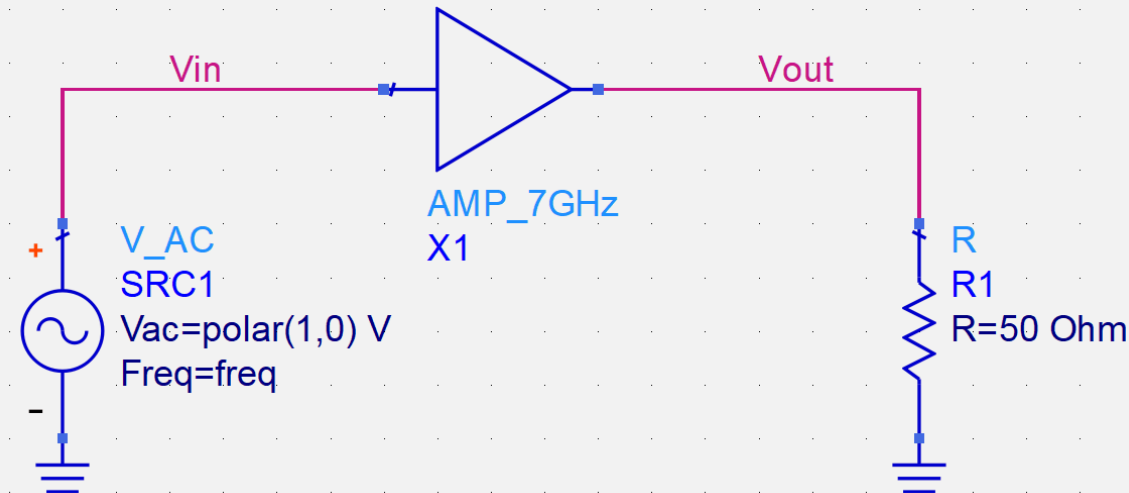

Figure 8. Schematic showing the sub-circuit placement
4. For DC and AC simulation to work, you must have either node labels, current probes, or power probes in the circuit. Place a wire label by clicking the **Wire/Pin Label** icon, which says 'NAME' on the icon (or **Insert > Wire/Pin Label**). Name the input wire **Vin** and the output wire **Vout**. The completed circuit is shown in Figure 8.